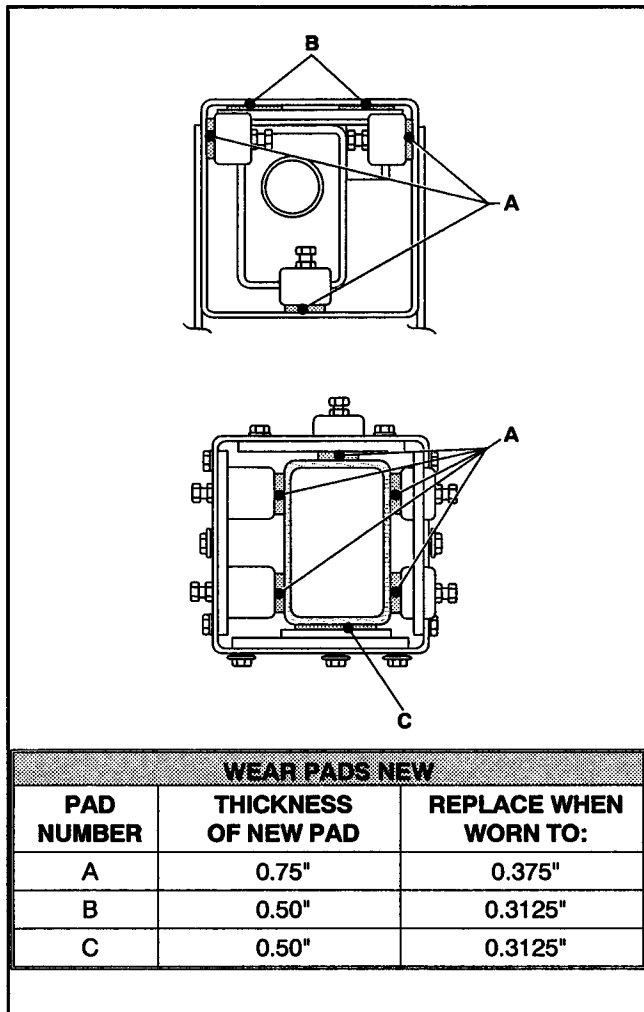

Figure 2-1. Location and Thickness Of Wear Pads.
2. Replace wear pads when worn to thickness shown in Figure 2-1.